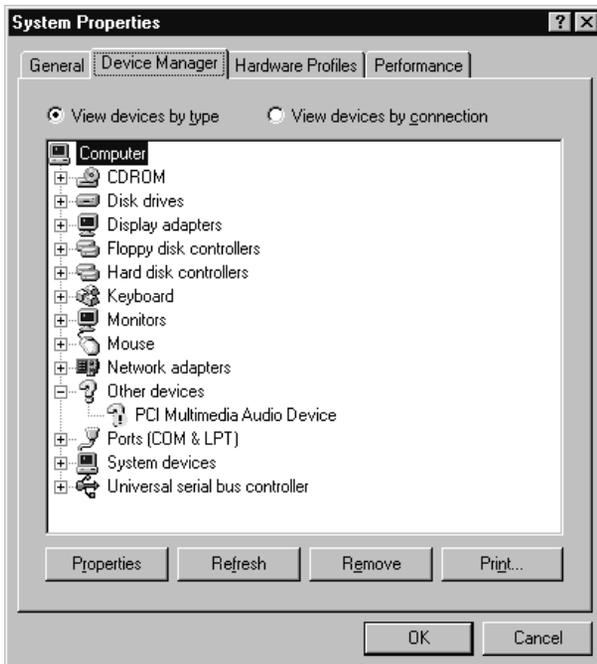

Figure 1
2. Before the Driver install into windows 95/98, you will find a yellow question mark still exits the “Other Devices” of the “Device Manager” show in Figure 1 below.